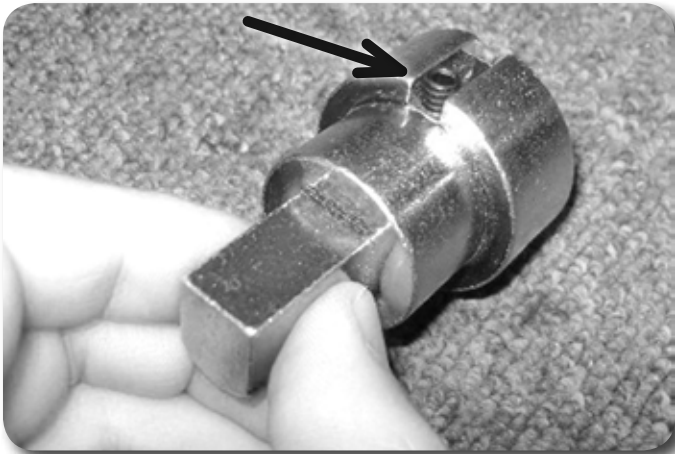

Figure 2A
4. Locate the provided steering extension and install the provided 1/4" set screw. **Figure 2A** Only start the screw into the side of the extension. Install the steering extension on the steering column. **Figure 2B** Install the provided 3/8" Allen head bolt in the extension. Make sure the bolt goes through the retaining groove on the steering column. Tighten the Allen head bolt to 40 ft-lbs. The extension will be attached to the steering shaft after lifting operation is complete.